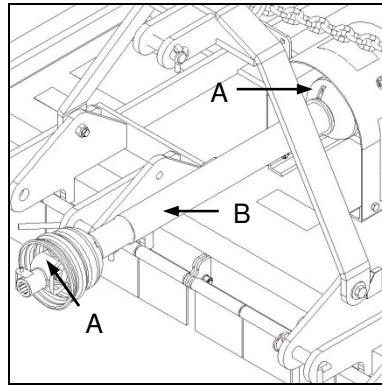

Fig. 5
- ✔ Apply grease to the universal joints (Fig. 5-A) and telescopic tubes (Fig. 5-B) of the PTO drive shaft.
- ✔ Ghries die kruiskoppelings (Fig. 5-A) en teleskopiese buise (Fig. 5-B) van die kragaftakkeras.